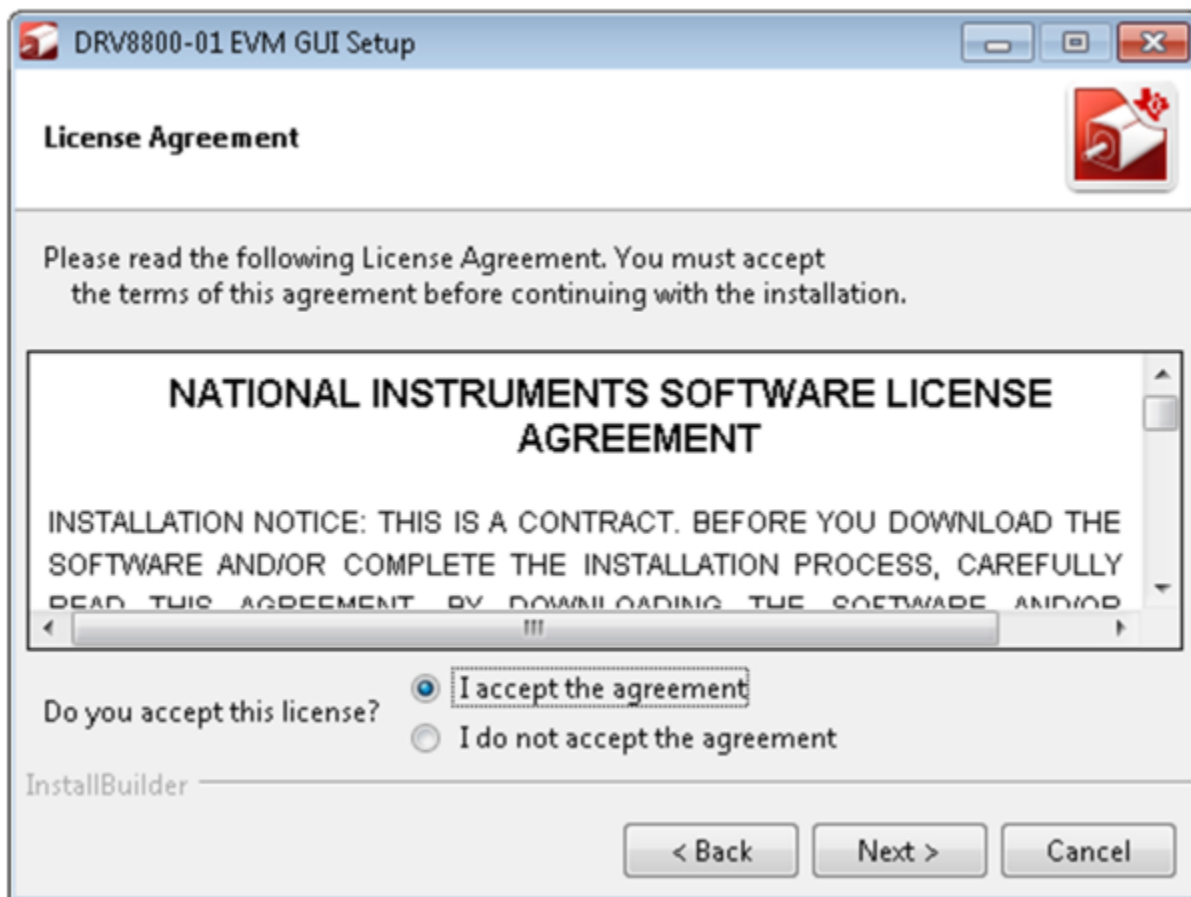

Figure 5. NI License Agreement
4. A screen as shown below in Figure 5 appears, displaying the license agreement of National Instruments. Please read through the agreement carefully and enable the “I Accept the License Agreement” radio button and press the **Next** button.